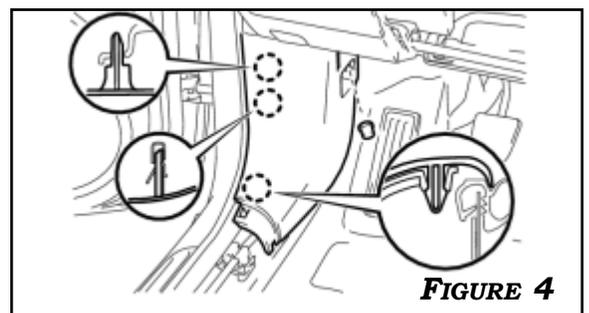

FIGURE 4
4. USING A MOULDING REMOVER, DETACH THE 10 CLAWS AND REMOVE THE SCUFF PLATE. REMOVE THE CAP NUT. THEN, DETACH THE 3 CLAWS AND REMOVE THE LEFT COWL SIDE TRIM BOARD. **FIGURE 4**